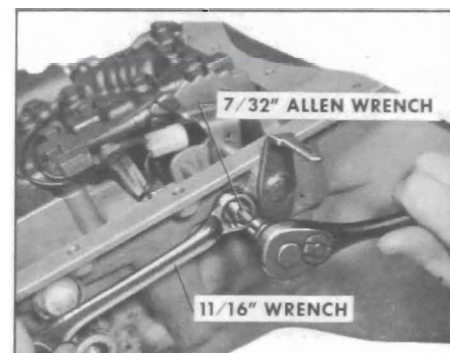

Figure 5-331
2. Back off band adjusting screw four (4) turns and lock nut. See Figure 5-331.